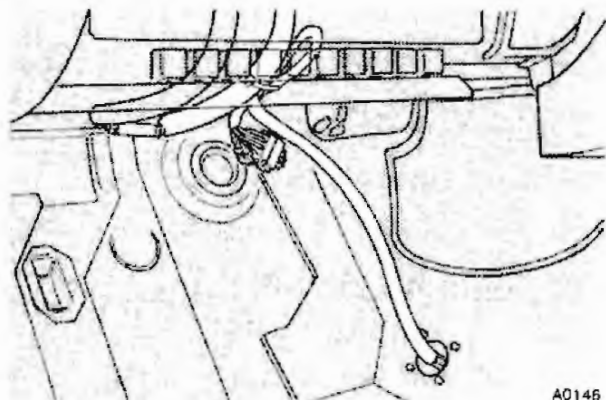

Fig. 2
- 2 If the loom is the shorter (55cm) design, reclip as before. If the loom is the latest (100cm) design, clip as illustrated in figure 2.